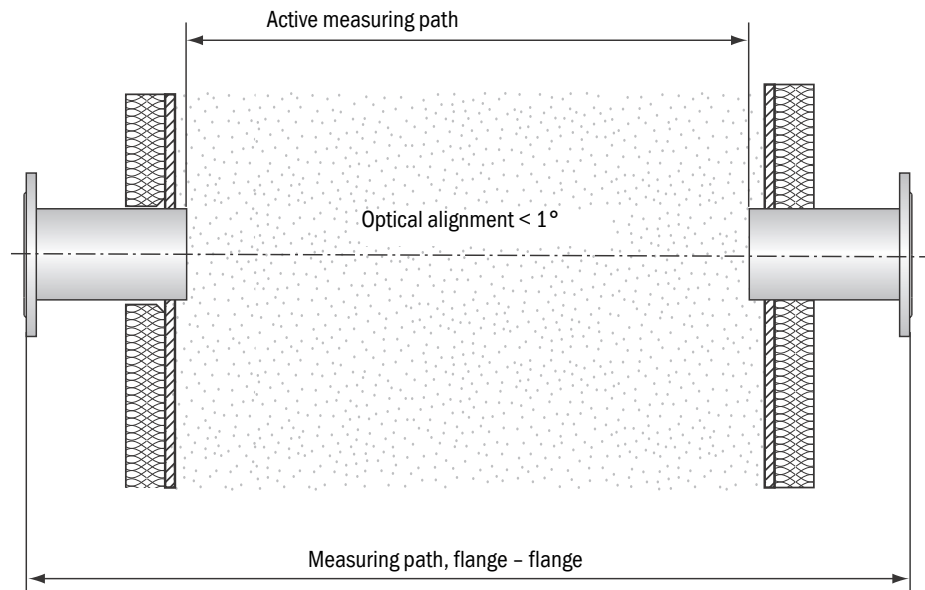

Fig. 9: Flange installation – determining the measuring path
- 12 Brick/concrete ducts: Anchor the holding plate with the welded flange with tube to the duct as shown in Fig. 9; page 22.